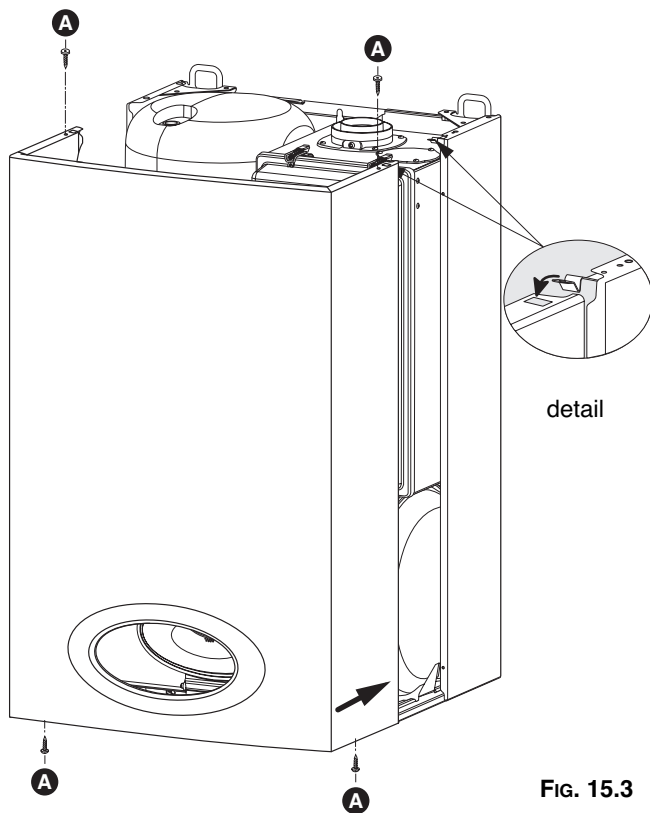

FIG. 15.3
- position the case (Fig. 15.3)